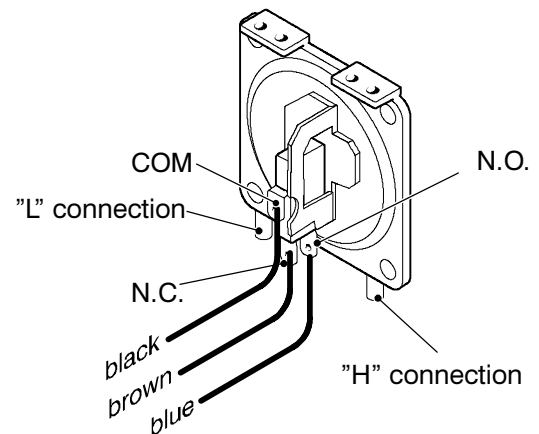
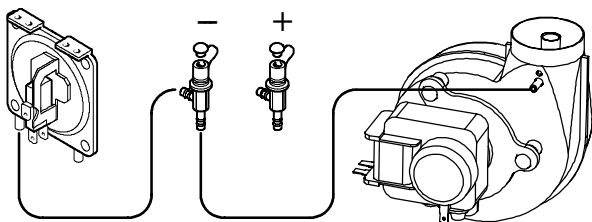

Fig. 69a
Fig. 73
- 2 Disconnect the wires and check the electrical resistance between the connections of the Air pressure switch. Refer to the Fig. 69a or b in accordance with the type of air pressure switch used.
**Warning:** to correctly connect the venturi device to the Air pressure switch, refer to Fig. 73.
**Warning:** to correctly connect the Air pressure switch, refer to Fig. 73 and Fig. 69a or Fig. 69b for the correct wiring.